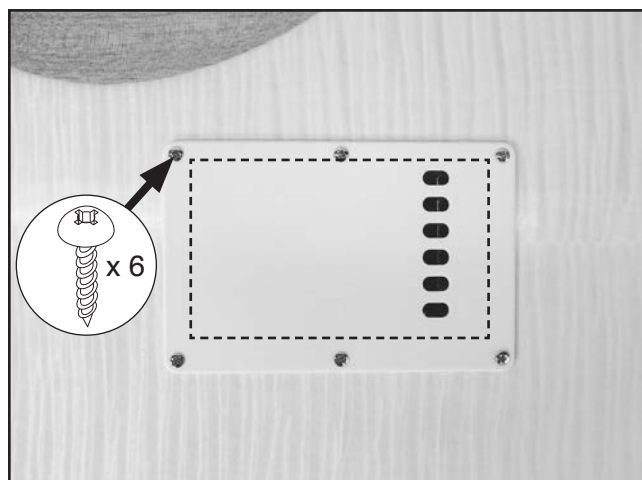

Figure 16. Correct position of back plate.
1. Turn guitar face down, position back plate over cavity in back of guitar body, as shown in **Figure 16**.
5. Secure back plate to guitar body with (6) M2.5 x 8 tap screws, and remove masking tape (see **Figure 16**).